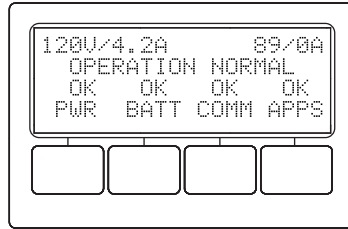

Fig. 5-16, XM3.1-HP™ Power Supply Smart Display
10. Plug the XM3.1-HP™ power supply into the outlet. Note that the XM3.1-HP power supply turns on and shows an input voltage and current. (**Fig. 5-16**)